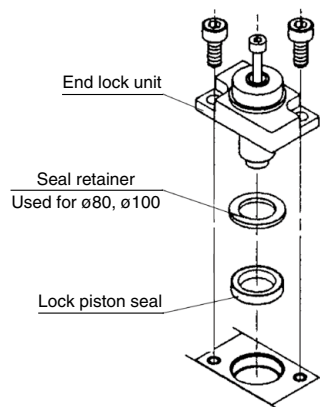

Fig. 1 How to remove the end lock
a. Removal of the end lock: Fig. 1.